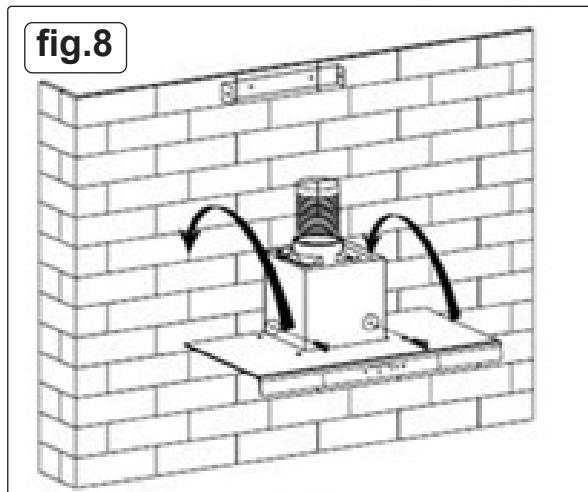

fig.8
- Put the cooker hood on the hook, fig.8.